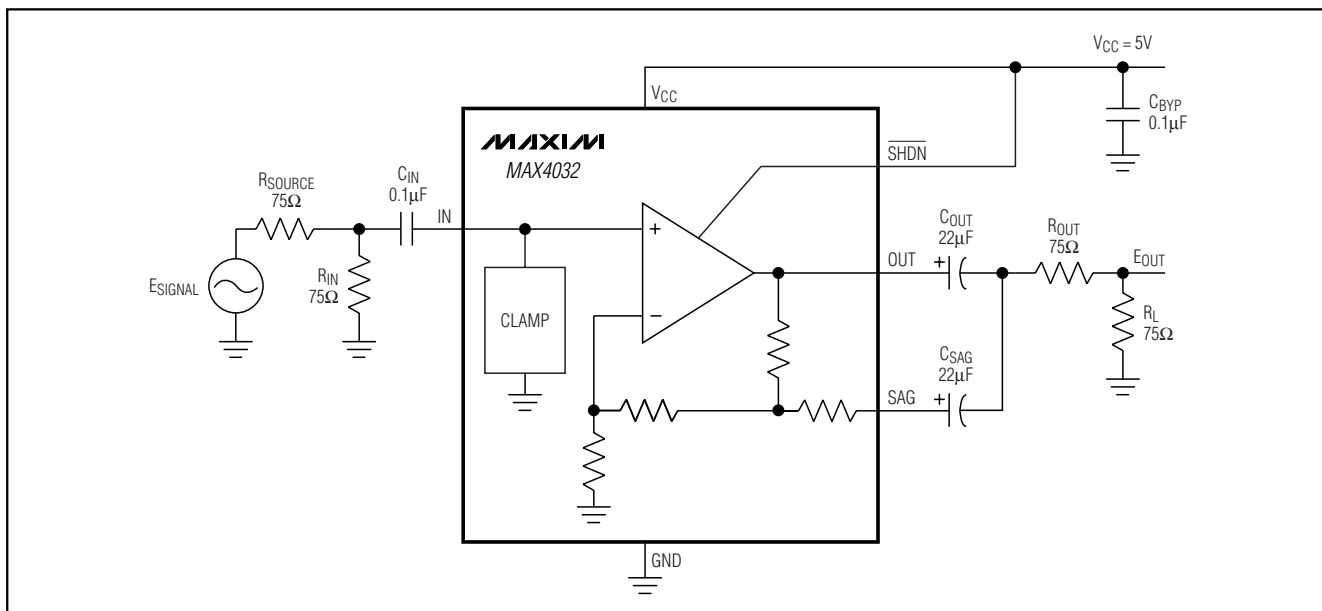

Figure 3. AC-Coupling the MAX4032
- 2) Two capacitors and 150Ω are connected between OUT, SAG, and ground (see Figure 3).
with the normal output, as shown in Figure 3. This allows the use of two smaller capacitors (C_{OUT} and C_{SAG}), typically 22μF, substantially reducing the size of the interface caps and their cost while retaining the low-frequency response.
The MAX4032's output is configured to support AC-coupling with minimal capacitance. This is called "sag correction." It refers to the improved bandwidth achieved by using two smaller capacitors to replace a single large capacitor shown in Figure 3.